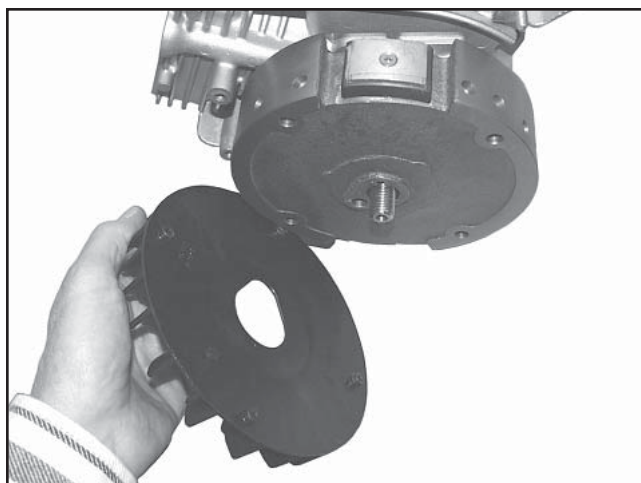

Figure 11-38. Install Flywheel Fan.
4. Install the fan bosses into the matching holes in the flywheel. See Figure 11-38.